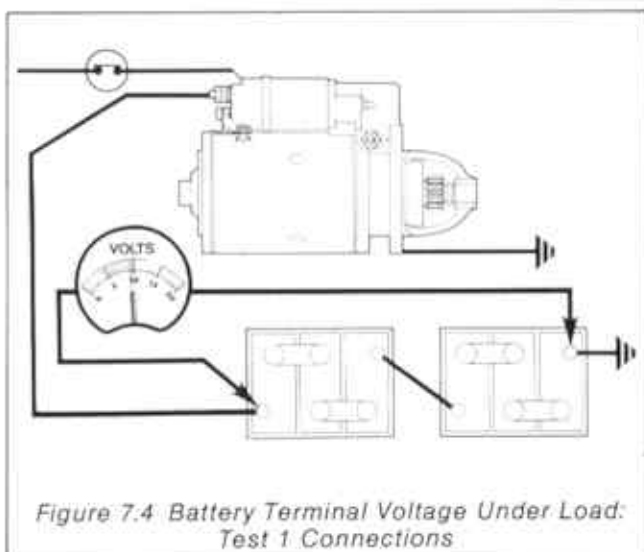

Figure 7.4 Battery Terminal Voltage Under Load: Test 1 Connections
7.10 Connect the voltmeter across the battery terminals as shown in Figure 7.4 and operate the starter switch. The voltage reading depends on the engine load and battery size (Ah). A typical figure is about 9.0V. A low voltage reading would indicate